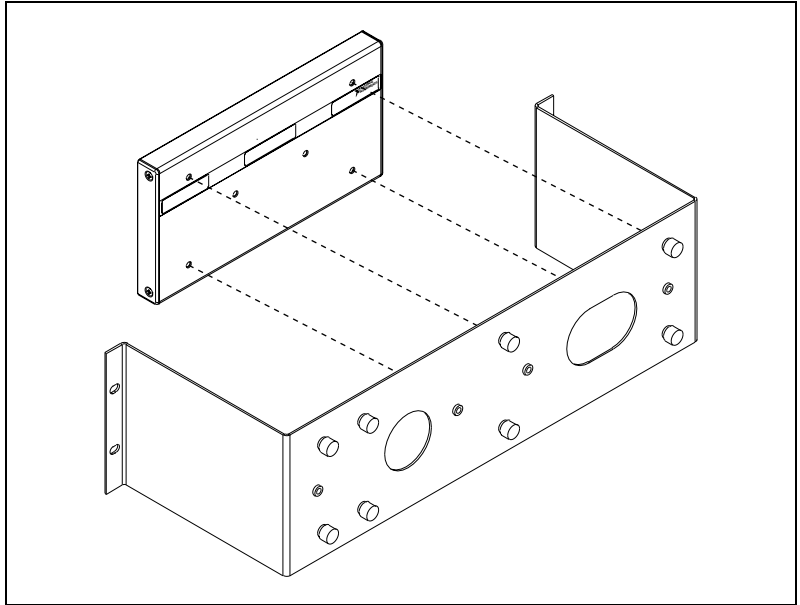

Figure 2-7. Fastening the Rack-Mount Accessory to the cFP-BP-4 Backplane
1. Fasten the rack-mount bracket to the back of the cFP-BP-*x* using the captive screws on the bracket. Refer to Figures 2-7 and 2-8.